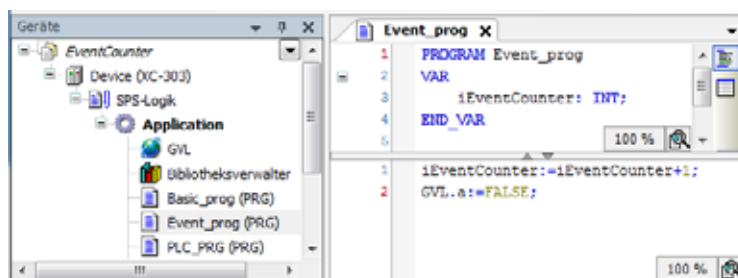

Figure 52: Programmed element for event controlled task
- ▶ You can now enter a program. The program example Param_prog (Figure 52) increments the variable "value" by the value 1. The Param_prog is processed if the variable a = TRUE.